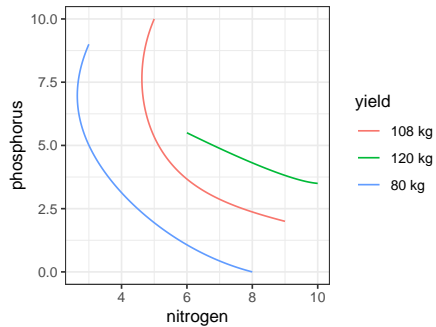

Figure 1: Isoquant curves showing combination of various level of inputs to produce different level of outputs
- The Figure 1 shows the isoquant map of three isoquant curves.